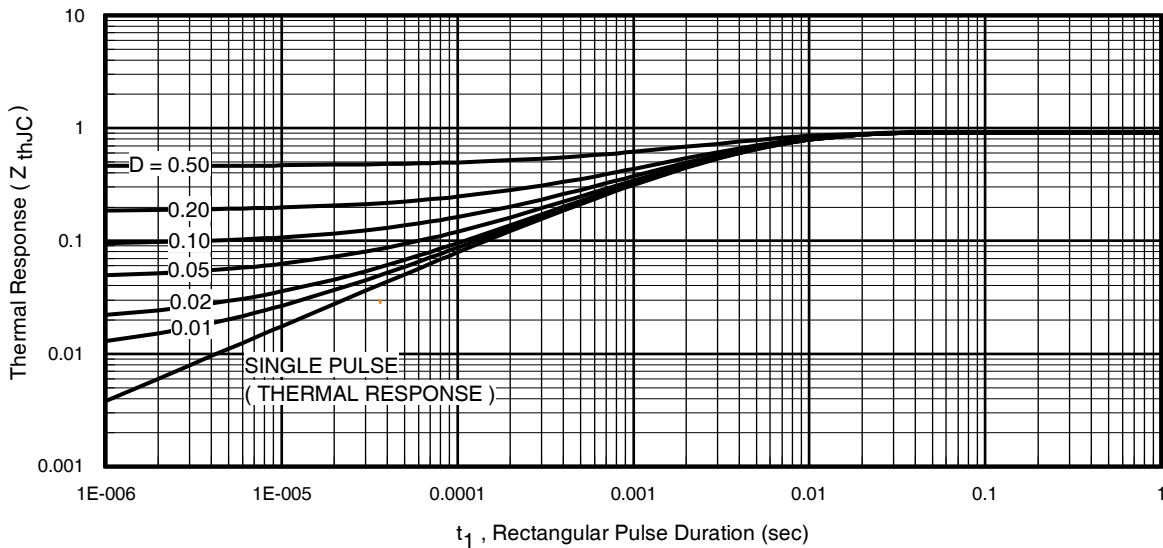
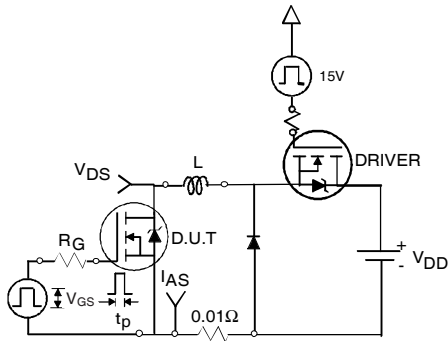

Fig 11. Maximum Effective Transient Thermal Impedance, Junction-to-Case
Fig 12a. Unclamped Inductive Test Circuit
- ① Repetitive rating; pulse width limited by max. junction temperature. (See fig. 11).
- ② Limited by T_{Jmax}, starting T_J = 25°C, L = 0.27mH, R_G = 25Ω, I_{AS} = 35A, V_{GS} = 10V. Part not recommended for use above this value.
- ③ I_{SD} ≤ 35A, di/dt ≤ 380A/μs, V_{DD} ≤ V_{(BR)DSS}, T_J ≤ 175°C.
- ④ Pulse width ≤ 1.0ms; duty cycle ≤ 2%.
- ⑤ C_{oss eff.} is a fixed capacitance that gives the same charging time as C_{oss} while V_{DS} is rising from 0 to 80% V_{DS}.
- ⑥ Limited by T_{Jmax}, see Fig.12a, 12b, 15, 16 for typical repetitive avalanche performance.
- ⑦ This value determined from sample failure population. 100% tested to this value in production.
- ⑧ This is applied to D²Pak, when mounted on 1" square PCB (FR-4 or G-10 Material). For recommended footprint and soldering techniques refer to application note #AN-994.
3. Equation below based on circuit and waveforms shown in Figures 12a, 12b.
$Z_{thJC}(D, t_{av})$ = Transient thermal resistance, see figure 11)